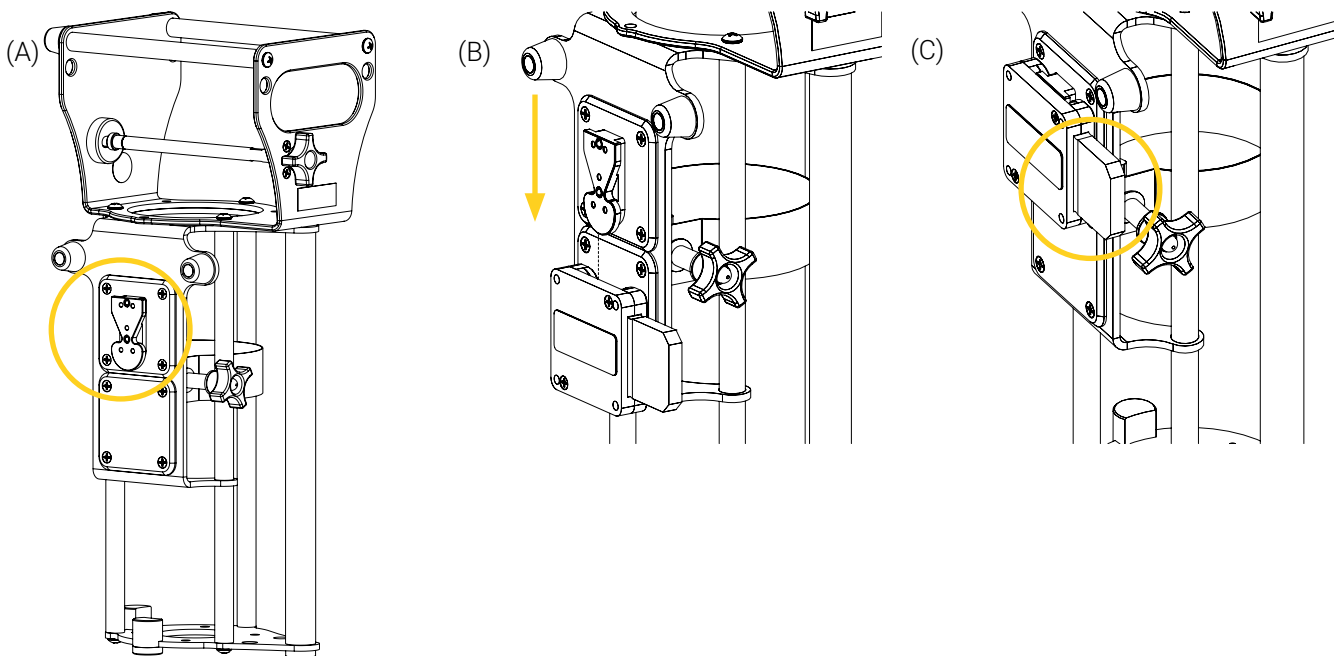

Figure 24: Installing the mounting bracket in the Flex Seqr
2. Align and insert the mounting clip of the mounting bracket in the Flex Seqr, paying attention not to wedge the tubing, until you hear a click sound and you can see the lock/unlock indicator on the quick release button (Figure 24). Refer to your mounting bracket user manual for more operating instructions, the safety guidelines and safe use with the Flex Seqr.